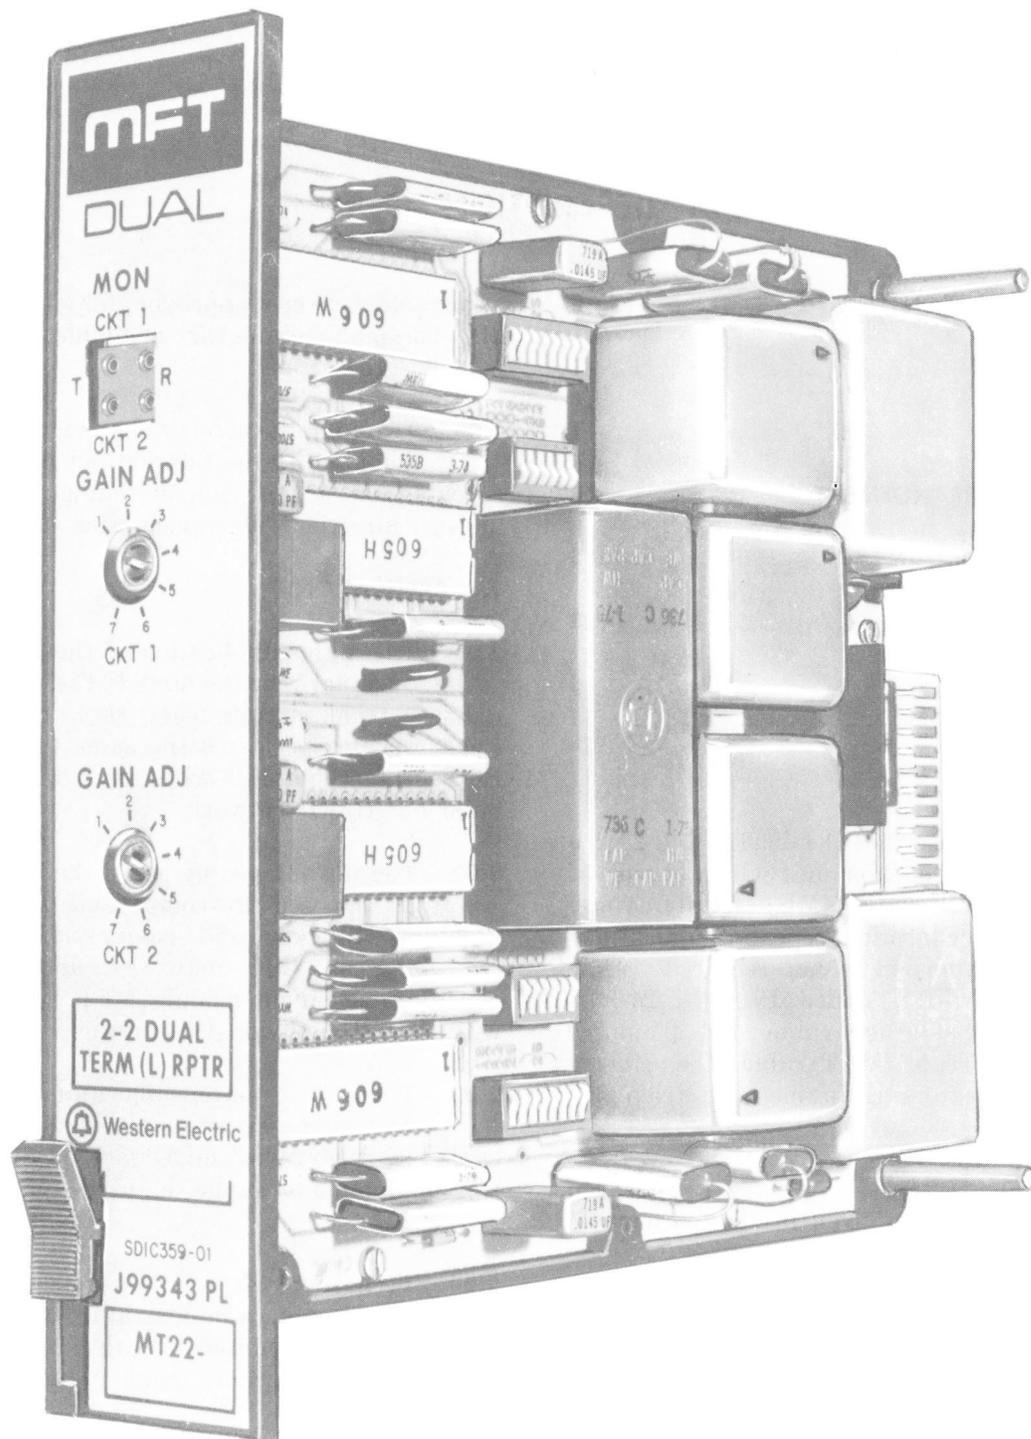

Fig. 1—J99343PL 2-Wire Dual Terminal Repeater Unit
**1.03** The J99343PL repeater unit, Fig. 1, consists of two complete and identical 2-wire repeaters in a single MFT plug-in unit. The unit uses the same lead plan as a 4-4 MFT repeater.